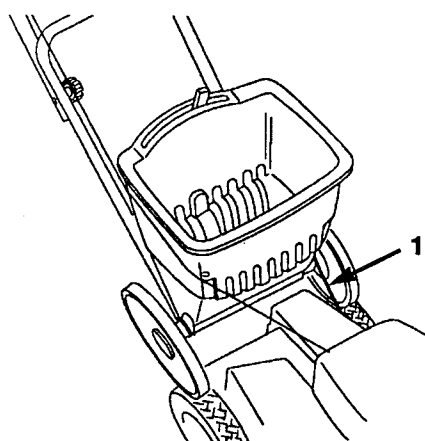

Figure 81
1. Place the spreader on your mower (Fig. 81). The wheels of the spreader must rest on the wheels of the mower. Be careful not to kink the traction cable (Fig. 81).